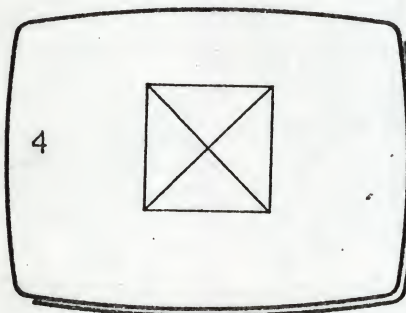

Fig 4
- 2 Alter the drawing as in Fig 4.